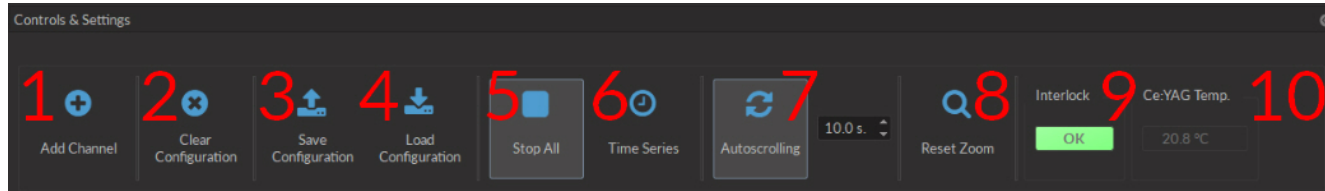

Figure 4.11: Control & Settings
1. The **Add channel** button (Fig. 4.11) opens the **Channel Configuration** window 4.2. See section 4.1.1 for more details.
2. The **Clear Configuration** button (Fig. 4.11) clears all configuration channels. Cleared channels cannot be recovered unless previously saved.
5. The **Start All** button (Fig. 4.11) starts all currently configured channels.